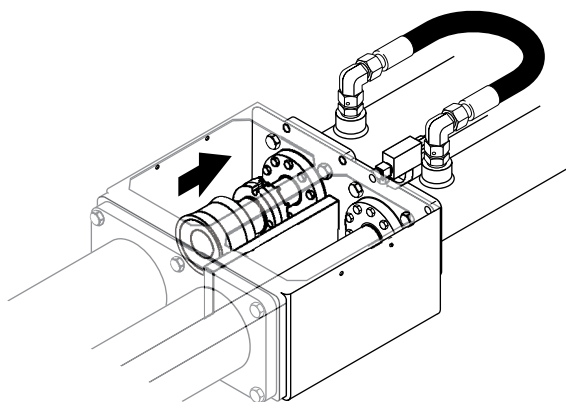

Figure 23
10. Restart the engine and clear the E-stops. Press the concrete pump forward or reverse button and Ram Change Mode button simultaneously to slowly retract the cylinder rod until the ram is clear of the material cylinder (Figure 23). Release the concrete pump forward/reverse or Ram Change button to stop the differential cylinders. Shut off the engine.